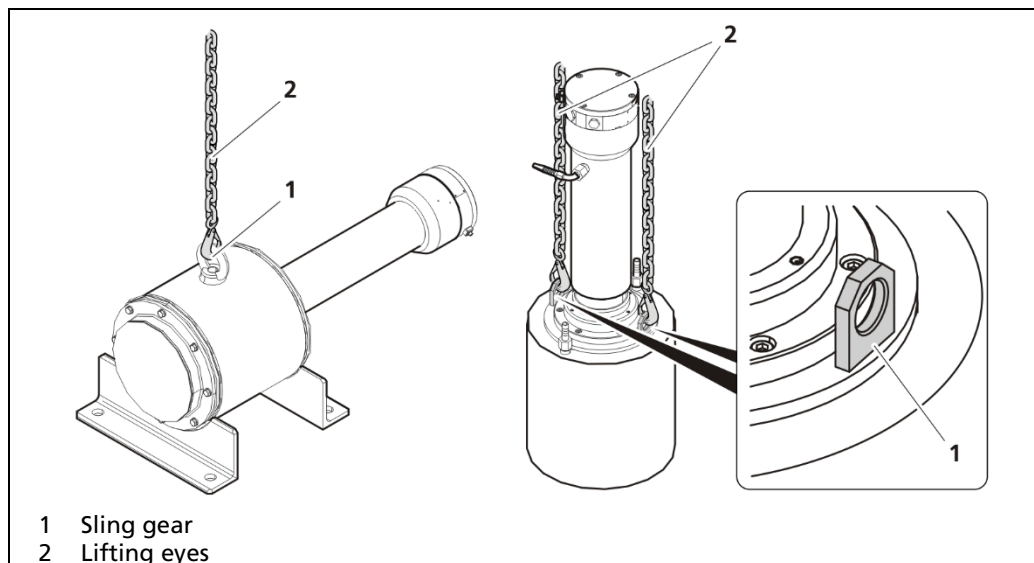

Fig. 5 Transport notes for SuperSENS Detectors
Since the SuperSENS variant detectors weigh  $\geq 50$  kg, they must be attached with sling gear (Fig. 5, item 1) using both lifting eyes (Fig. 5, item 2).